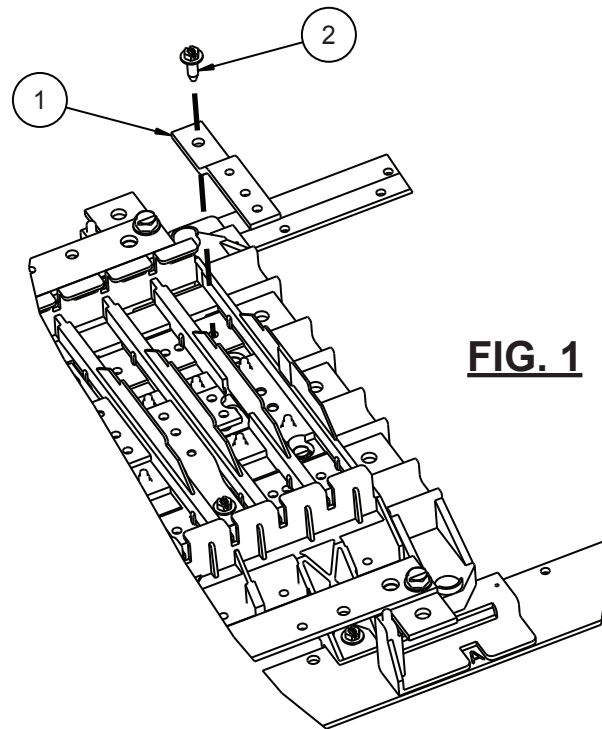

FIG. 1
4. These connectors are specifically for the A-phase & C-phase connections. For each proper position, attach the phase connector (item 1) to the phase bus using #10-24 hex washer head screws (item 2) as shown in Fig. 1.